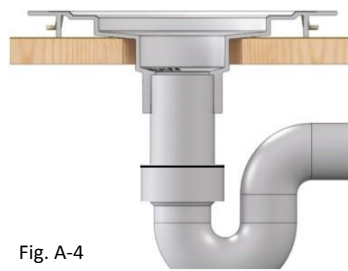
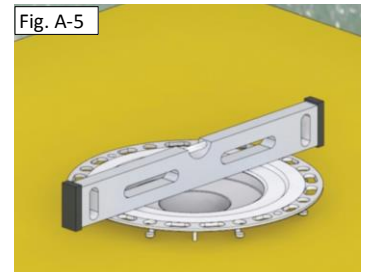

Fig. A-4
Fig. A-5
- Connect pipe to P-trap using solvent cement (Fig. A-4) Check to make sure drain is level (Fig. A-5) Allow the solvent cement to dry before performing a leak test on the drain connection in accordance with local building & plumbing codes (Fig. C-6)